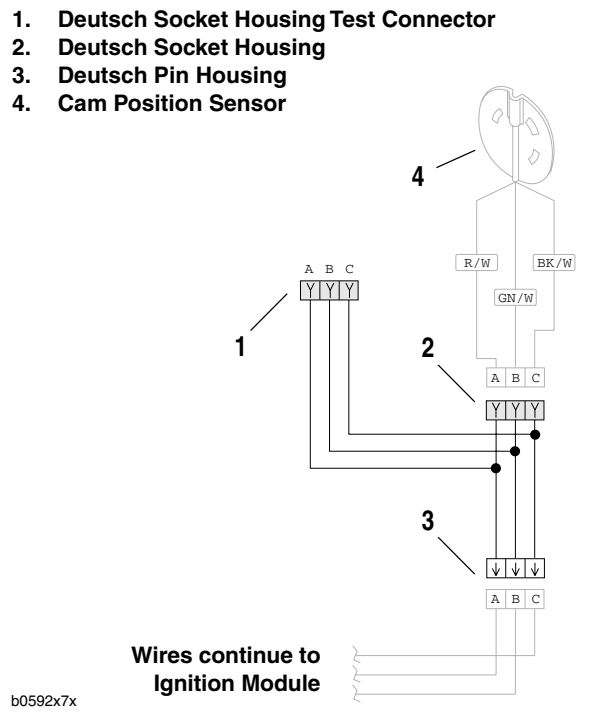

Figure 7-67. Testing Tachometer
1. See Figure 7-67. Connect the speedometer tester to the cam position sensor Deutsch socket housing.